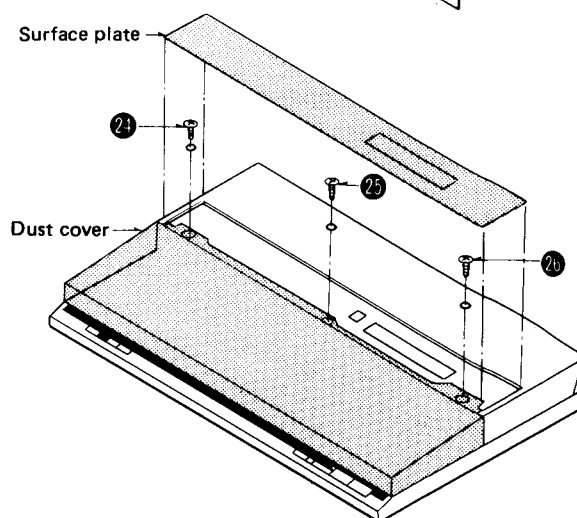

Fig. 8
3. Remove the dust cover setscrews 24 ~ 26. (Fig. 8)